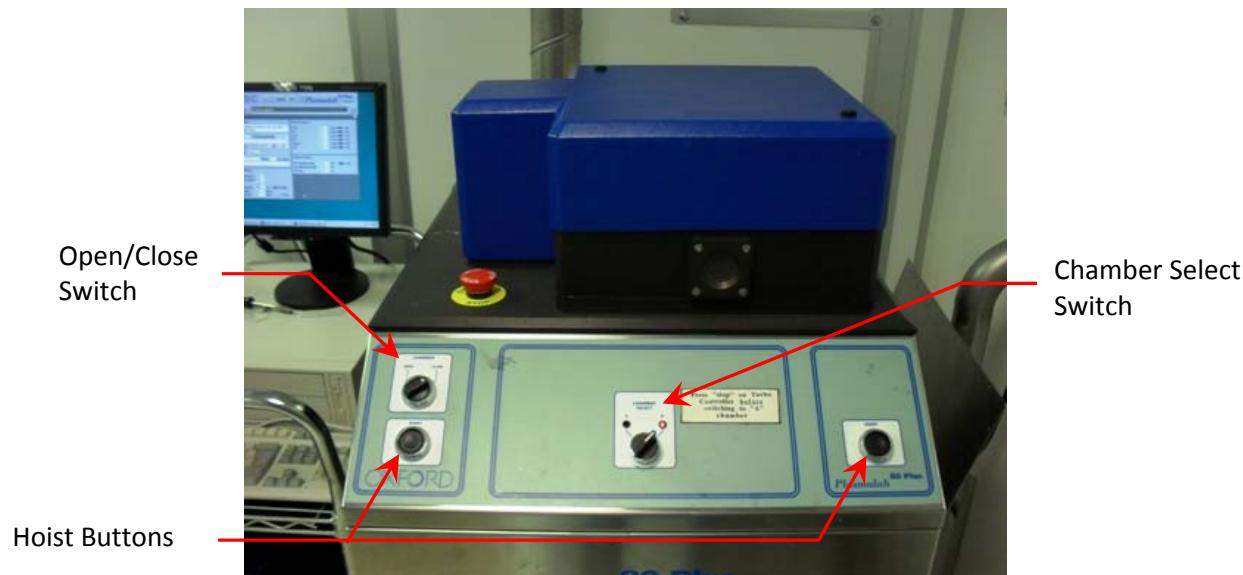

Figure 1, Oxford 80+ RIE (Chamber B)
| Figure 1, Oxford 80+ RIE (Chamber B) | 2 |
- 6.2.4.2 Turn the chamber select switch to chamber B. See *Figure 1*.
- 7.2.1 When the vent process is complete turn the Chamber knob to Open. See *Figure 1*.
- 7.2.2 Press and hold both Hoist buttons simultaneously. See *Figure 1*.